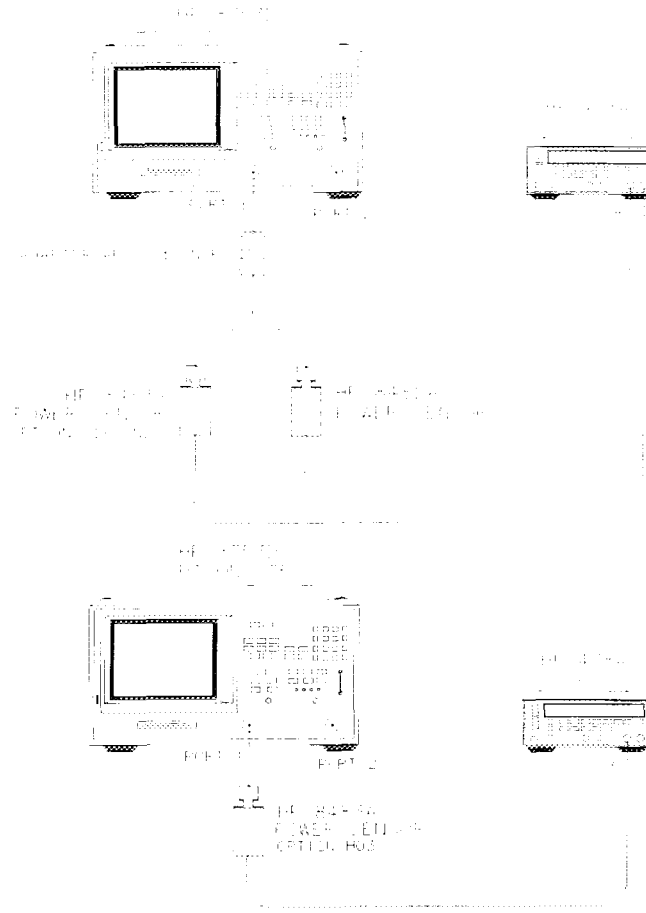

Figure 4-3. Source Output Power Accuracy Test Setup
- 2 Connect the equipment as shown in Figure 4-3.